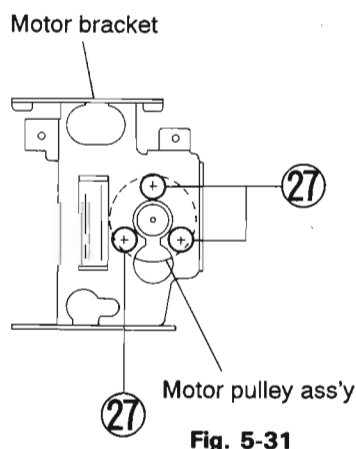

Fig. 5-31
■ How to Remove the Flywheel (Refer to Figs. 5-31 and 5-32)